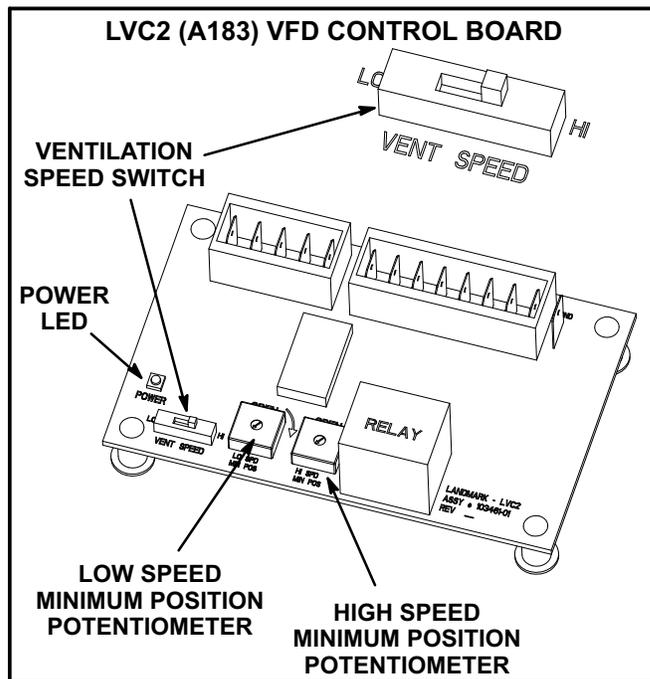

FIGURE 22
To save energy during ventilation, the blower speed can be set to low. This is accomplished by changing the ventilation speed switch on the VFD control board to “LO”. See figure 22.
To maintain required minimum ventilation air volumes when the unit is in the occupied mode, two minimum damper positions must be set. A high and a low speed potentiometer are provided on the VFD control board to adjust minimum damper position. See figure 22. The low speed minimum damper position is used for both low and medium blower speeds as standard economizers only offer 2 damper positions.
- 5- Check the power LED on the board. See figure 22.
- 8- When LVC2 24VAC thermostat blower (G) input and 24VDC power are present, check the LVC2 low and high speed outputs. The LVC2 uses inverse logic to enable the blower; 1VDC will be read at the enabled blower speed terminal. See table 17.